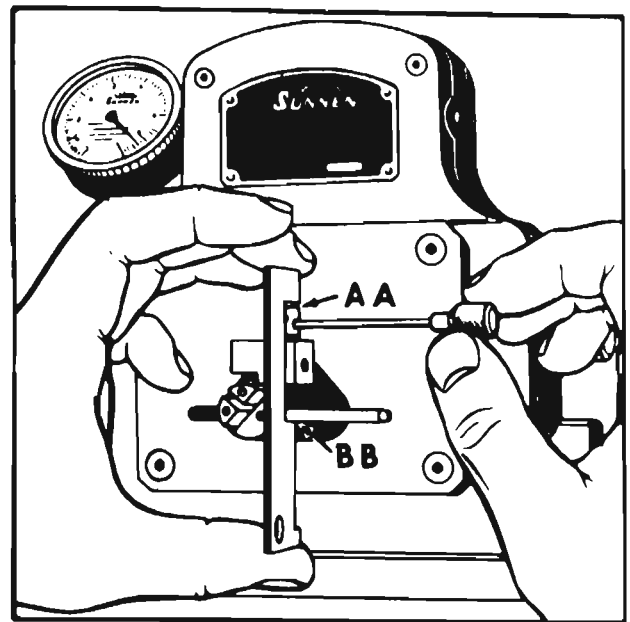

Fig. 29
3. (Fig. 29). Place calibrator in position, flat against full width of centralizer block. Slip wrench through hole as shown and adjust threaded centralizer point while rocking it right and left until calibrator just touches at both AA and BB.